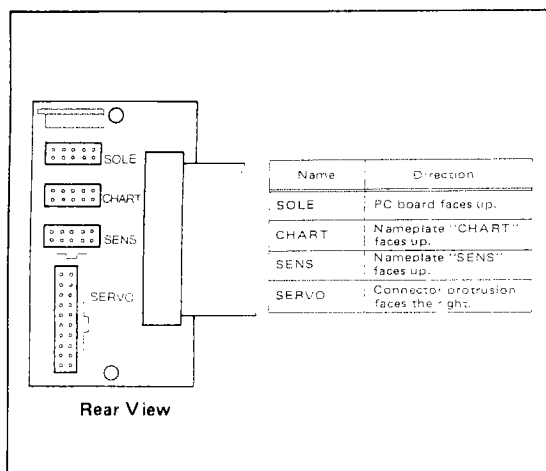

Figure 10-12. Cable Connectors.
- (5) Connect the four connectors (numbers 11, 12, 13, and 14) — (see Figure 10-12). Be sure that all connectors are inserted snugly.